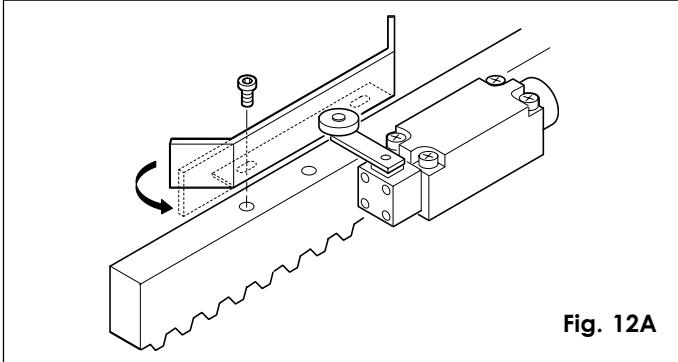

Fig. 12A
**Note:** the travel stop plates may be fastened by means of screws, if desired (fig. 12A).
**Important:** a) The limit switch must be tripped by the initial bent part of the travel stop plate, as shown in fig. 12A.
b) It is advisable to straighten the final bent part of the travel stop plate, as shown in fig. 12A, in order to prevent the plate from passing the limit switch.
The operator is equipped with a mechanical travel stop with roller and trigger. The movement of the gate is stopped when a bent travel stop plate fixed to the top of the rack operates the trigger, tripping the microswitch (fig. 12A).